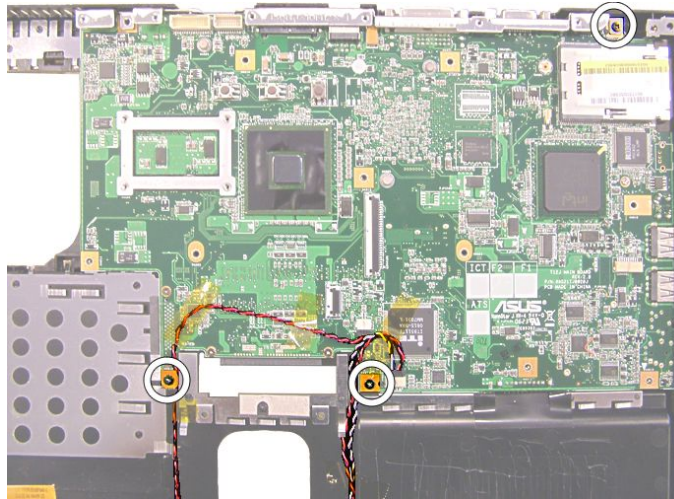

Fig. 19 Location of screws and speakers and subwoofer cables.
10. Remove the 3 screws securing the main board (see Fig. 19)
1. Disconnect the speaker cable from the main board (see Fig. 19).